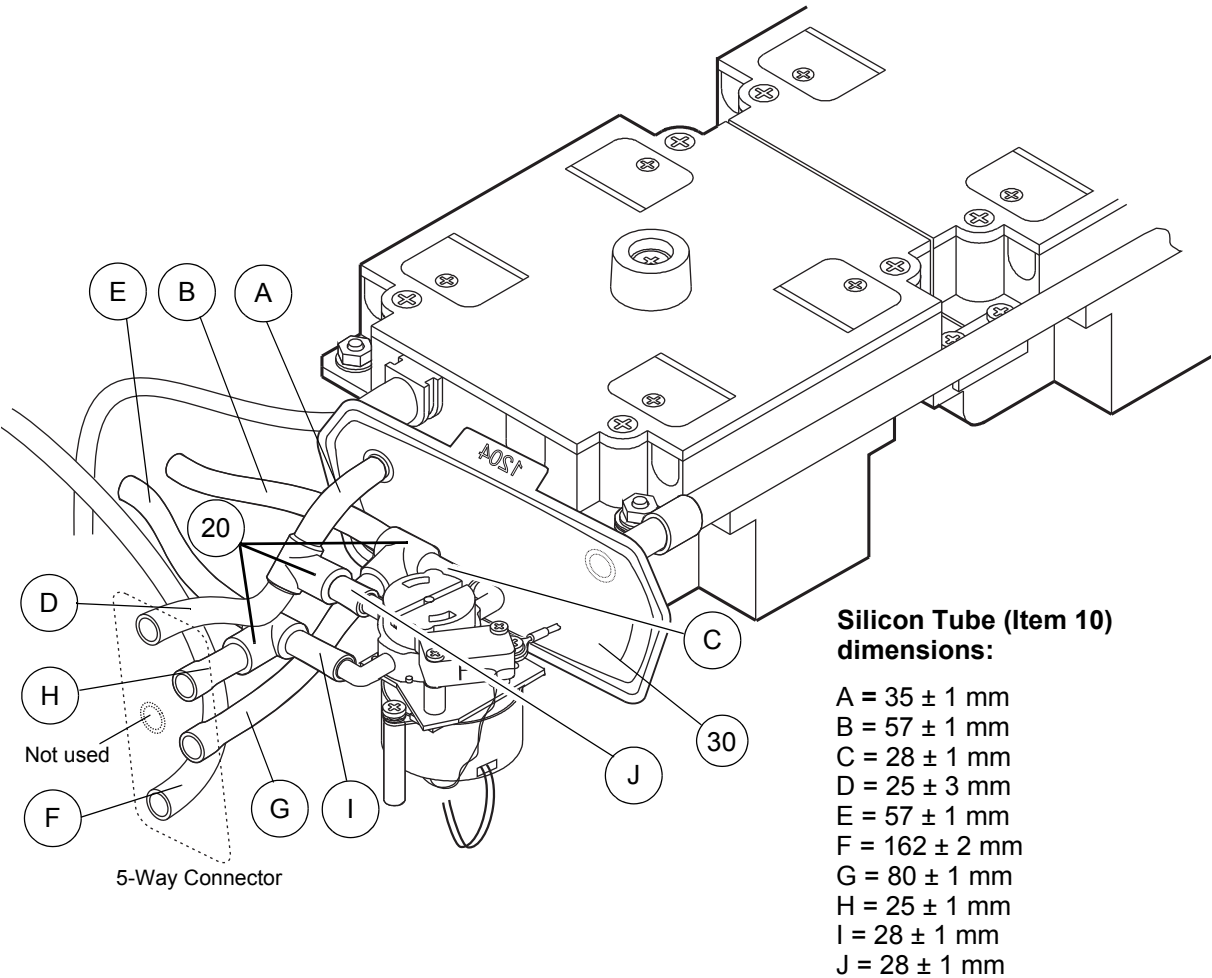

Figure 23 - Replacing the Silencer Bag
- 31.2 Disconnect and remove the Silencer bag (Fig 23, Item 30) from the Rotary Valve Hose (Fig 23, Item 50) and the Compressor Hose.
- 31.3 Install the new Silencer bag (Fig 23, Item 30) from the Rotary Valve Hose and the Compressor Hose. Ensure the Silencer Bag is pushed fully into each hose.